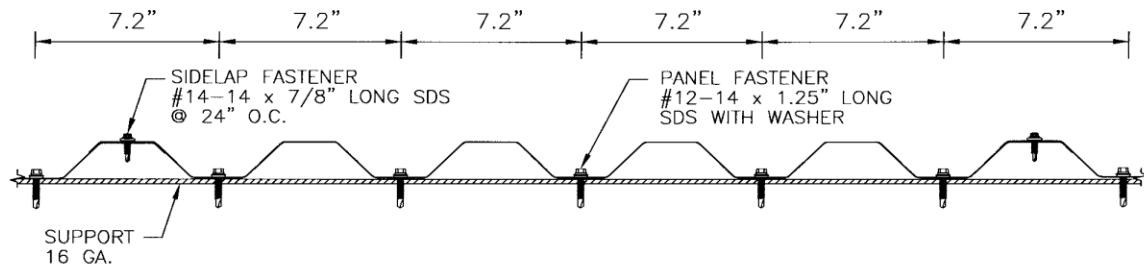

Figure 1. Minimum 26-Gauge LT 3.3 Panel Fastener Pattern
- **Attachment of Metal Panels to the Steel Purlins or Steel Girts:** Secure to the steel purlins or girts with No. 12-14 x 1-1/4" long hex head self-drilling screws with a 9/16" washer. Locate a line of fasteners along each steel purlin or girt spaced 7.2" on center with the fasteners located in the valleys of the panels. Use fasteners long enough to ensure a minimum penetration of 3 pitches of thread below the steel purlin or girt. Refer to Figure 1 in this evaluation report.
- **Panel Ends and End Laps to Steel Purlins or Steel Girts:** Minimum No. 12-14 x 1-1/4" hex head screws with a 9/16" washer. Locate a line of fasteners along the steel purlin or girt spaced 7.2" on center with the fasteners located in the valleys of the panels. Use fasteners long enough to ensure a minimum penetration of 3 pitches of thread below the steel purlin or girt. Refer to figure 1 for an illustration of the fastener pattern.
- **Panel Edges to the Steel Purlins or Steel Girts:** Minimum No. 12-14 x 1-1/4" hex head screws with a 9/16" washer. Locate a line of fasteners along the steel purlin or girt spaced 7.2" on center with the fasteners located in the valleys of the panels. Use fasteners long enough to ensure a minimum penetration of 3 pitches of thread below the steel purlin or girt. Refer to figure 1 for an illustration of the fastener pattern.